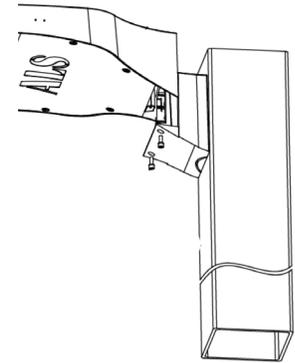

Fig 3
4. Feed power cord through center hole into pole for electrical connection, slide fixture onto SR bracket. Insert 2 screws from bottom up to secure fixture on bracket. (Fig. 3)